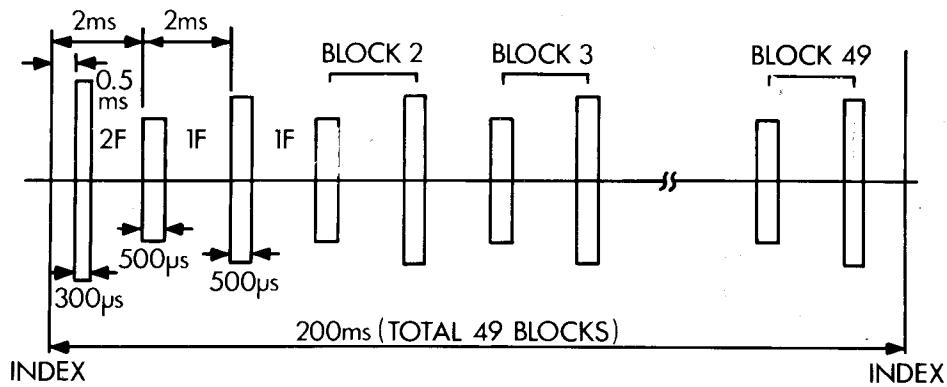

Fig.1 Waveform of T19 (Servo pattern)
1. Radial adjustment by use of Track 19 (Fig. 1). (Track 39, 119).	<input type="radio"/>